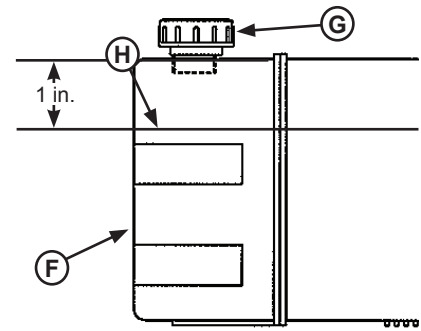

Figure 22
- Check reservoir fluid level (**H**, see Figure 22):